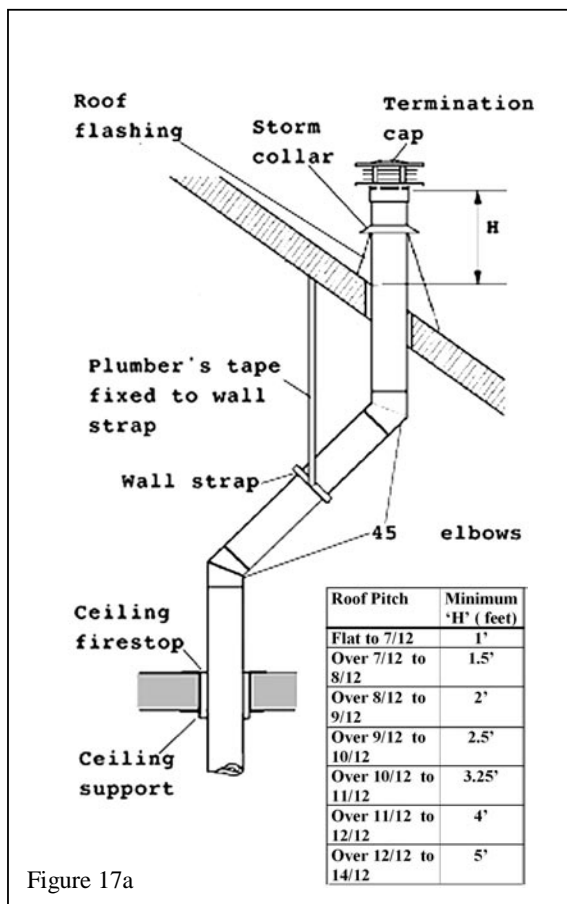

Figure 17a
2. The venting system for these appliances is considered to be a *Special Venting System*. The rule in the Installation Code CAN/CGA-B149 requiring a minimum vent height of 2ft above any portion of a building within 10ft does not, therefore, apply. (see figure 17a)